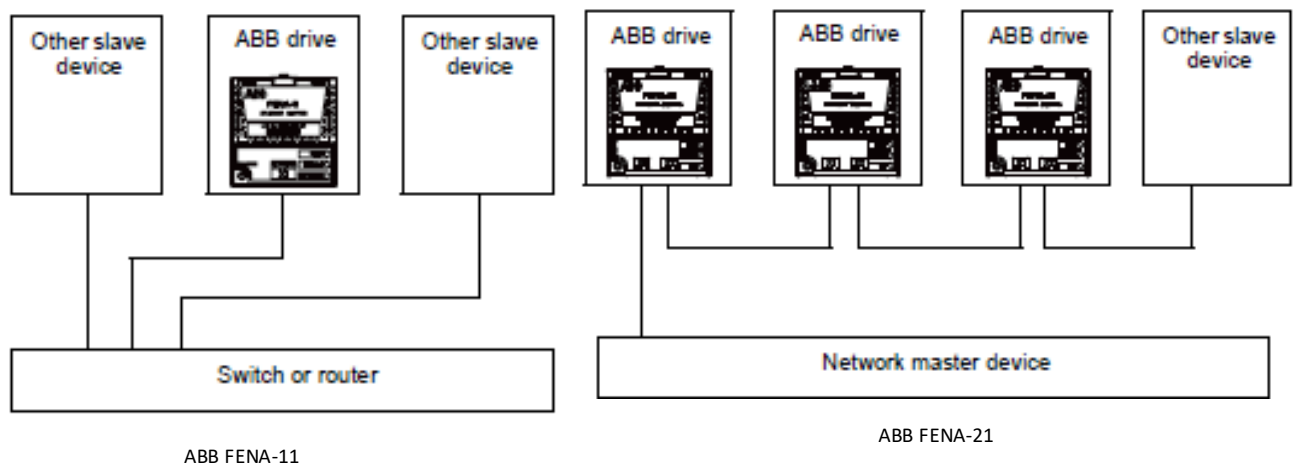

figure 5
PROFINET, like that of PROFIBUS, is managed by PROFIBUS&PROFINET International (PI) organization. It was promoted worldwide by Siemens Automation. The hardware layer is based on Ethernet and has many of the same characteristics of Ethernet as discussed earlier, including its wiring and the use of MAC and IO addresses. Maximum cable lengths of 100 meters between switches. The PS220 uses either the FENA-11 or FENA 21 module (part numbers K03560A05 (single port), K03560A06 (dual port)) to communicate PROFINET. A GSD file, supplied by M&C, may be required for the host controller. See figure 5 for a typical physical layout used in a PROFINET application.